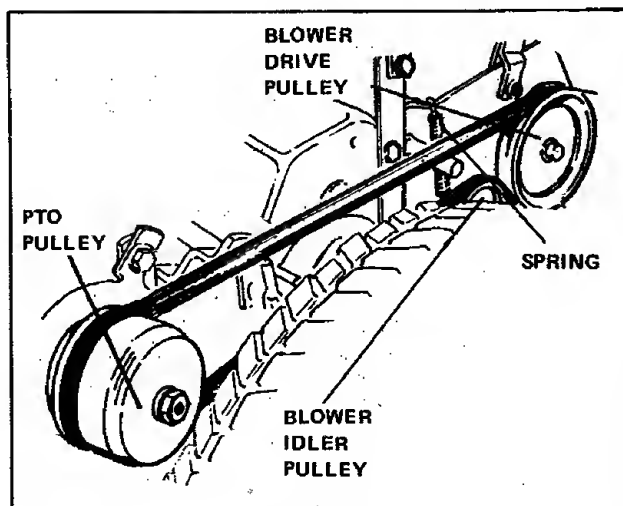

Figure 2. Drive Belt
2. Install the vacuum collector drive belt in the left (outer) groove on the tractor PTO pulley. Place the other end of the belt on the vacuum collector drive pulley, with the idler pulley positioned underneath the lower portion of the belt, as shown in figure 2. Hook the idler spring over the left upper hitch arm.